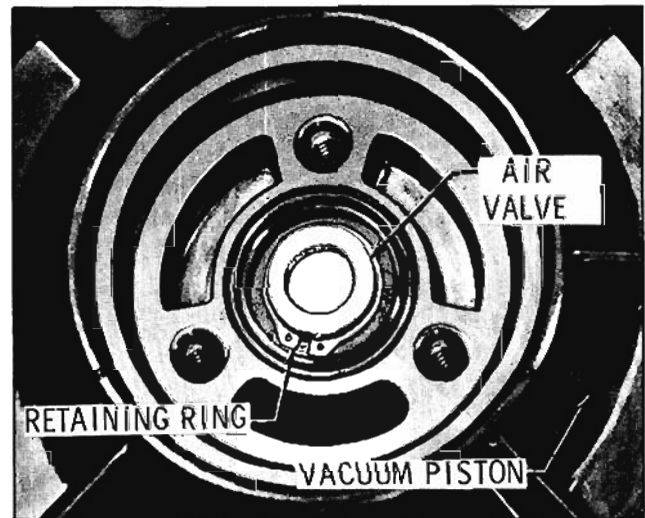

Fig. 11-60 Retaining Ring Location
18. Depress operating rod and remove the retaining ring from the air valve. (Fig. 11-60)
2. Coat the floating valve and the "O" ring on the air valve with lubricant and install the operating rod assembly into the vacuum piston. Install the retaining ring. (Fig. 11-60)